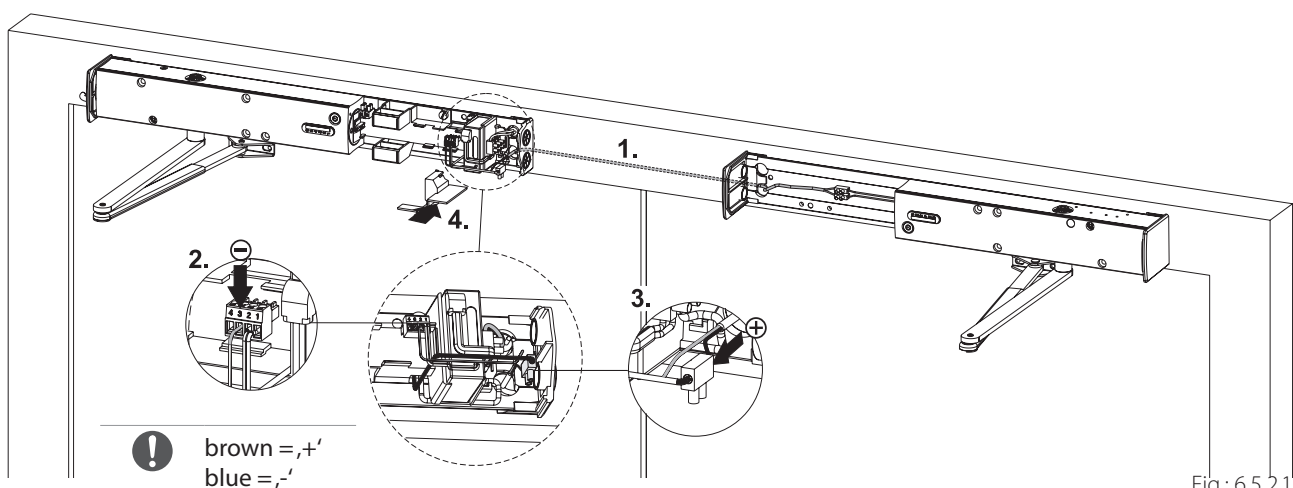

Fig.: 6.5.2.1
- through door frames and existing cable openings (B) at frames and closer if flush mounting is indicated
- Connect Cable to PIN 3 (2.) und Lustre terminal (3.) according to fig. 6.5.2.1.